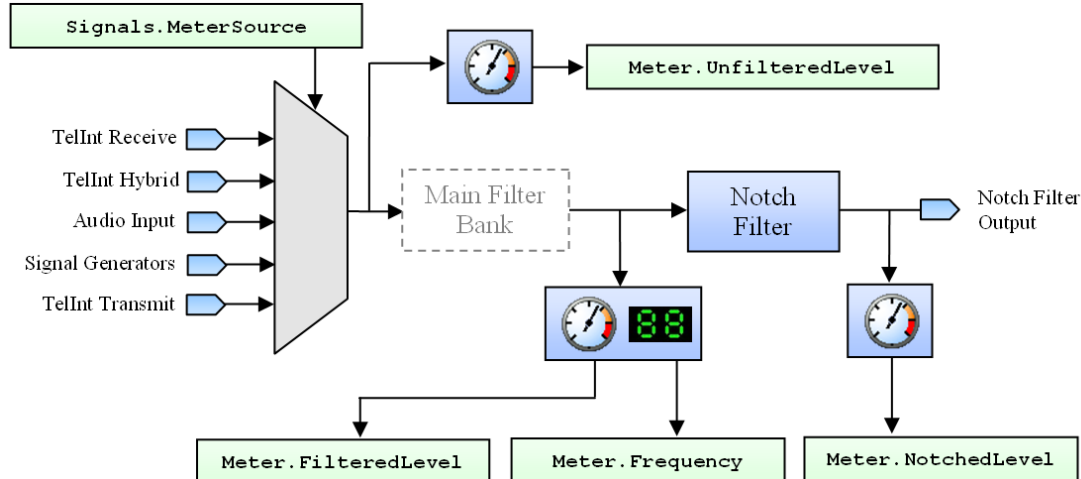

Figure 33 AI-5620 Meter Signal Routing Diagram
- **MeterSource** – this selects the internal signal which is routed to the meter for level and frequency analysis as illustrated in Figure 33. Please see section 17.7 for more information on the meter properties and signal configurations.
The AI-5620 instrument contains a signal meter which can be configured to perform filtering, level measurement, and frequency measurements on many signal sources available within the device. These features are implemented by the MeterManager class and are accessible through the Meter property of the AI560\_TE\_Simulator class. The AC signal routing within the meter is illustrated below in Figure 33.